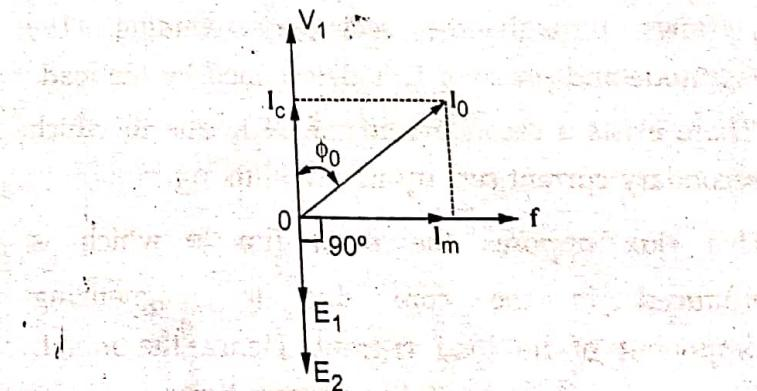

Fig. Q.12.1 Practical transformer on no load
- The phasor diagram is shown in the Fig. Q.12.1.